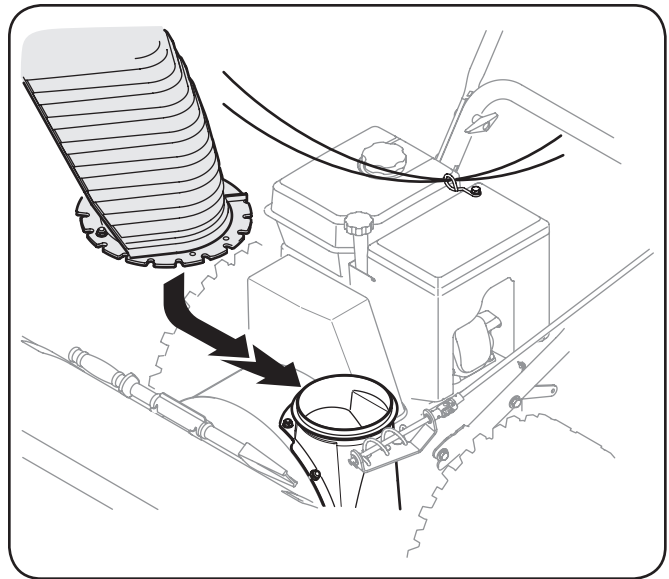

Figure 3-6
2. Place chute assembly onto chute base as shown in Figure 3-6. Make sure that the chute notches engage with the spiral end of chute directional control, and the two flange keepers are beneath the flange on the chute base.
4. Check that the chute cables are properly routed through the cable guide attached to the top of the engine. See Figure 3-6.